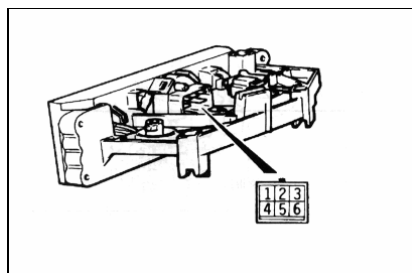

Fig 21-21
1. Continuity Inspection of blower switch(see Fig 21-21、 table 21-12)